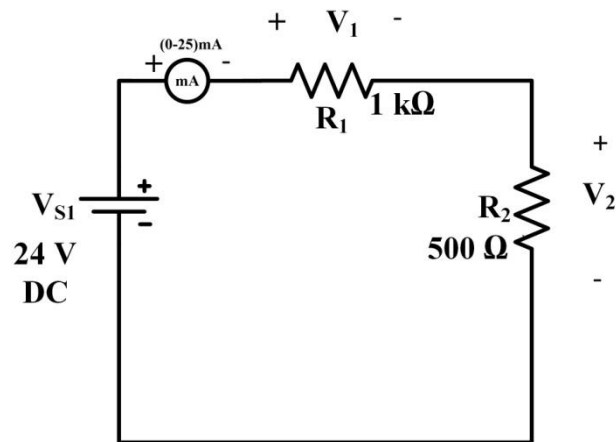

Figure 3.1 Voltage Division Rule
1. Construct the circuit as shown in Figure 3.1.